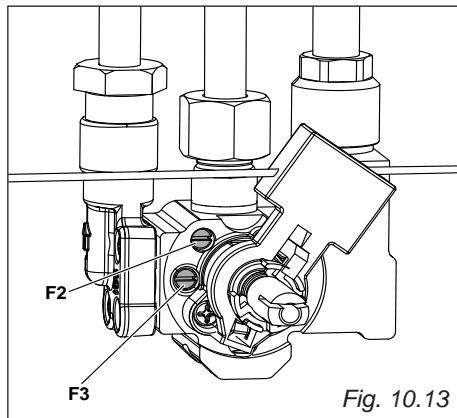

Fig. 10.13
- Using a screwdriver turn the screw "F3" until the correct setting is obtained (fig. 10.13).
- Using a screwdriver turn the screw "F2" until the correct setting is obtained (fig. 10.13).